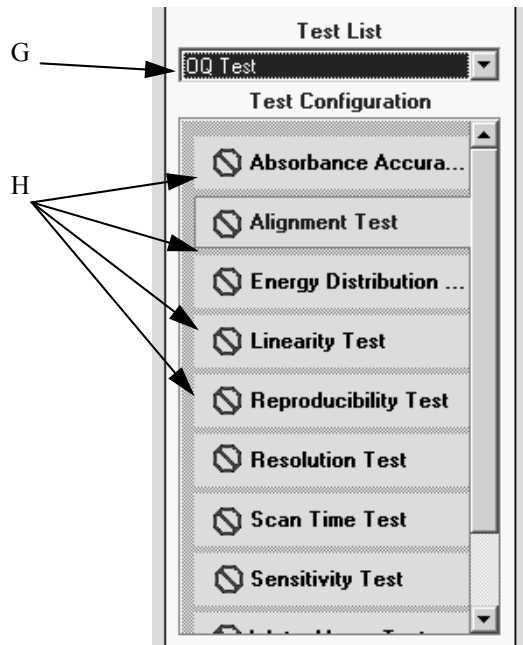

Figure 362: OVP Accessory Manager - Test configuration
- 17) Store the settings by clicking on the *Save Params* button (U).
- 18) To generate the settings for the OQ test protocol select *OQ Test* from the *Test List* drop-down list (G in figure 362). The *Test Configuration* field will now show all OQ tests. Proceed for the OQ test protocol and follow the steps as described for the PQ tests. **Make sure that you only select tests which are also available for the basic configuration.**